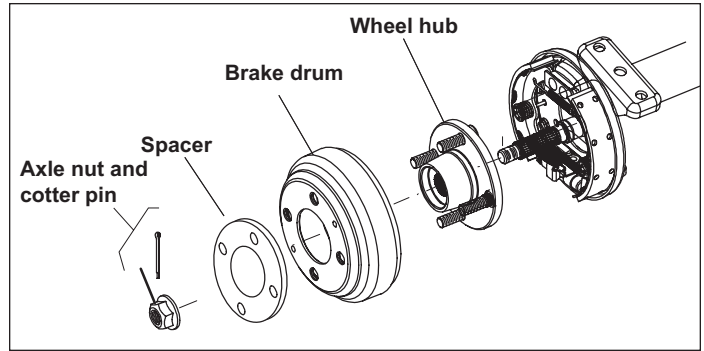

Figure 5-1. Rear Brake Drum and Hub
2. See Figure 5-1. Remove and discard cotter pin and axle nut. Release brake and remove spacer, brake drum and wheel hub.